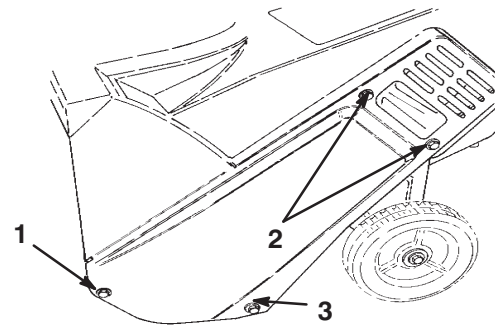

Figure 10
4. Remove the two short self-tapping screws, one long self-tapping screw, one bolt, one washer, and one nut that secure the left side cover to the snowthrower frame (Fig. 10).